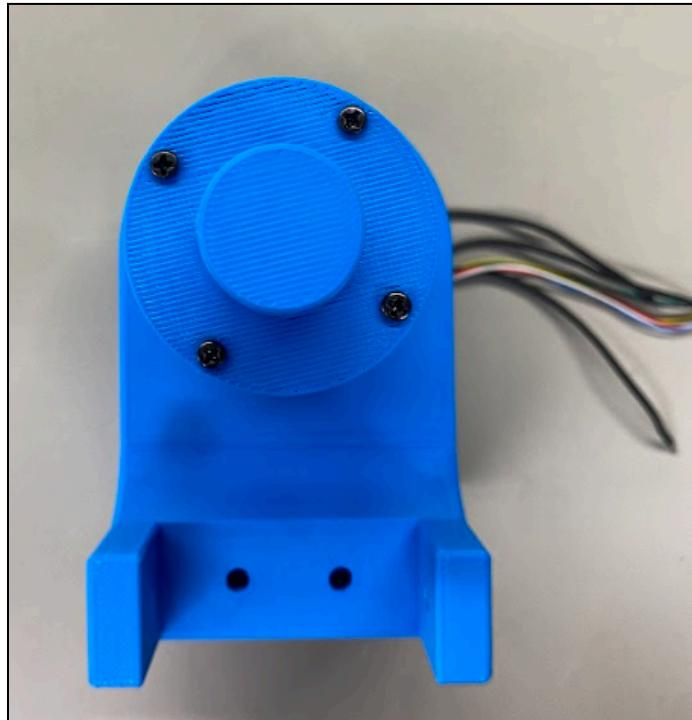

Figure 52: J5 Cylinder to J5 Cylinder
- Place the cylinder cap on top of the cylinder and align the holes with the heat set inserts in the cylinder. Ensure that the protrusion on the cylinder cap is facing outwards. Refer to Figure 52.
- Fasten the 4 M2.5x5 mm screws through the cylinder cap into the cylinder heat set inserts. Refer to Figure 52.